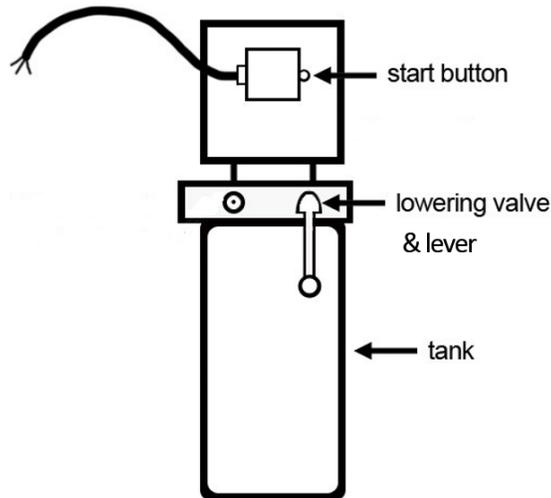

Fig. 6
- A. Push the 'start button' on the motor pump to prime the hydraulic oil into the cylinders on the lift. The lift will rise up with lock latch passing over the lock ladder (Fig. 6).
- B. Release the start button to stop the lift from rising. Press down on the 'lowering valve lever' and the lift will lower down and automatically engage the next lower lock height (Fig. 6).